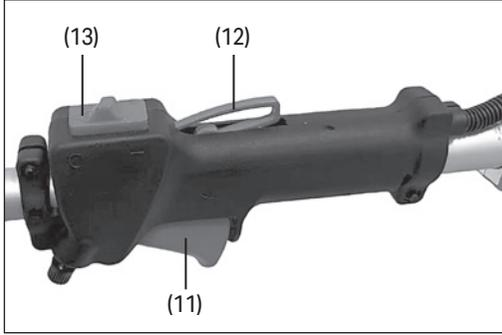
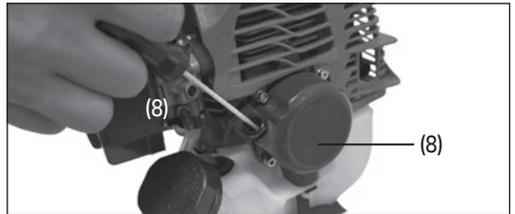

Fig.9
Fig.12
7.1 Starting the Engine (Fig.9 – Fig.12)